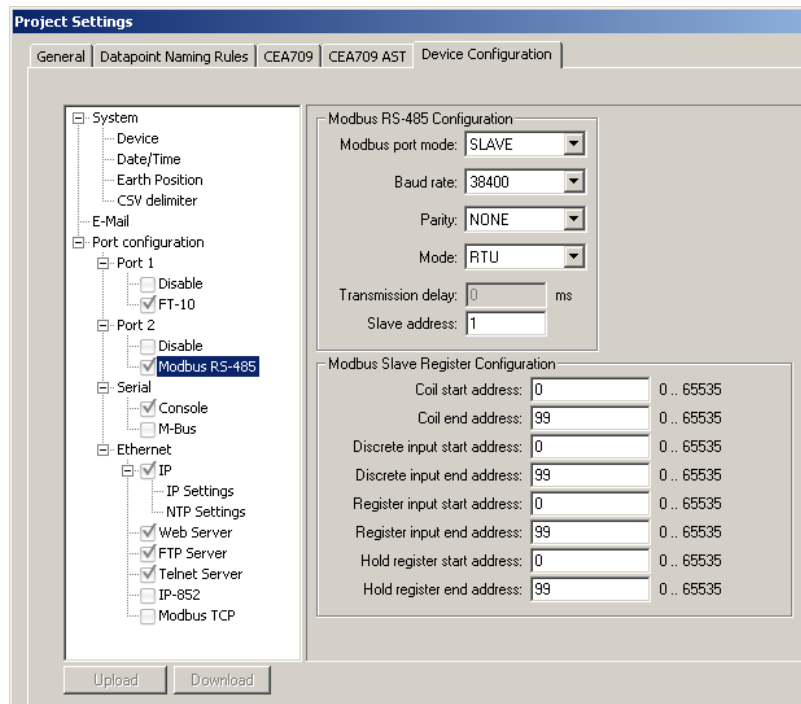

Figure 207: Project settings for Modbus.
2. In the **Device Config** tab enable the Modbus check boxes on the desired ports as shown in Figure 207. Setting the check box enables Modbus on that port. Edit the Modbus communication settings.